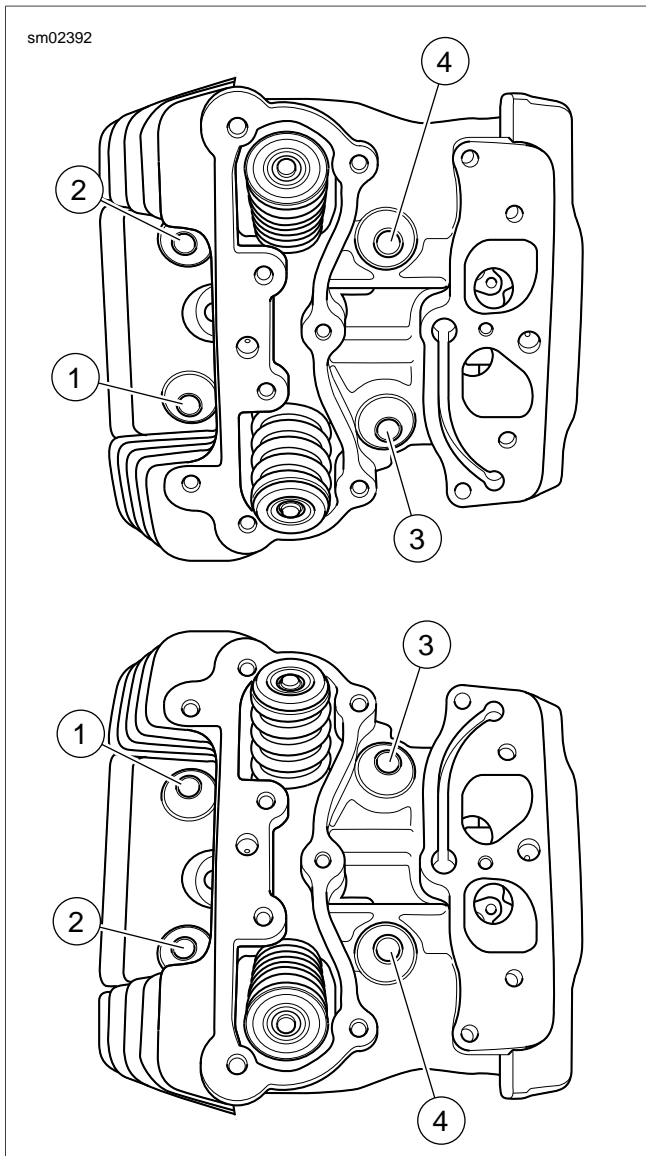

Figure 3-21. 1/4 Turn Head Bolts in Sequence
3. See Figure 3-21. Remove cylinder head bolts.